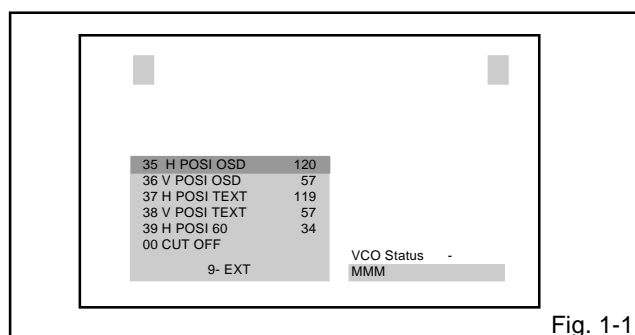

Fig. 1-1
Press the VOL. DOWN button on the set and the Channel button (9) on the remote control for more than 2 seconds to appear the adjustment mode on the screen as shown in Fig. 1-1.
3. Activate the adjustment mode display of Fig. 1-1 and press the channel button (13) on the remote control to select "VCO COARSE".
3. Activate the adjustment mode display of Fig. 1-1 and press the channel button (15) on the remote control to select "VCO COARSE L1".
4. Activate the adjustment mode display of Fig. 1-1 and press the channel button (01) on the remote control to select "RF AGC".